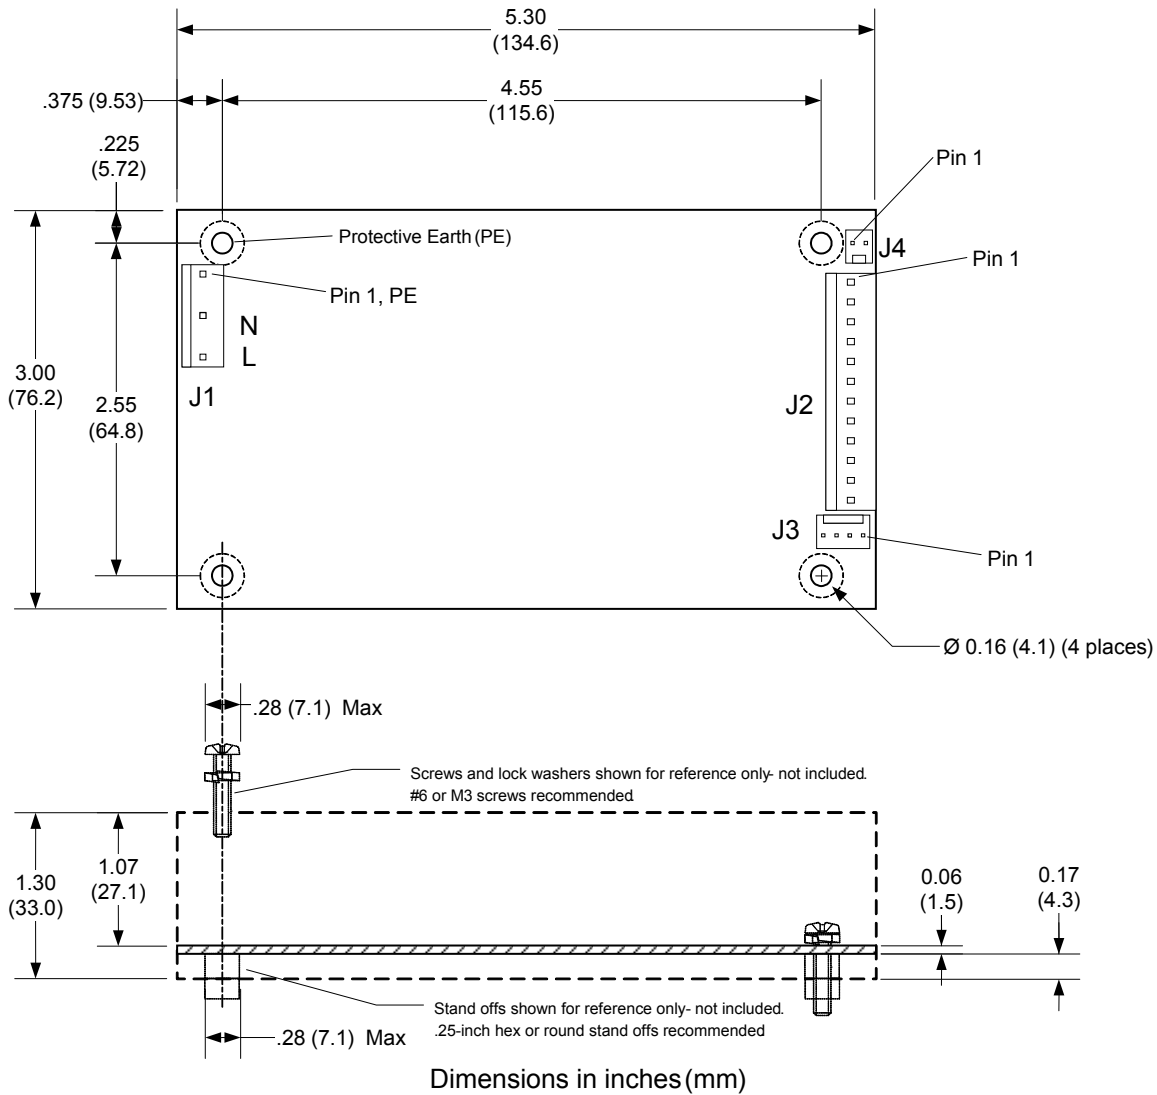

Figure 4-3 Dimensions
- Refer to Figure 4-3 for connector and pin-1 locations